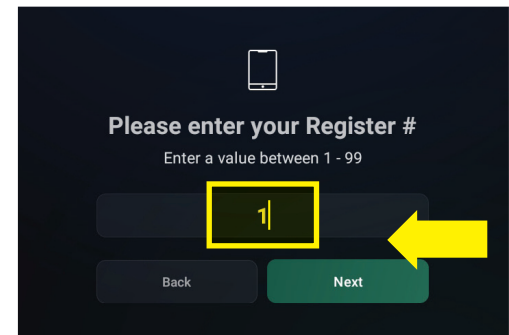

Figure 26
10. Enter a register number. Number them sequentially: 1, 2, 3, etc. (Figure 26).